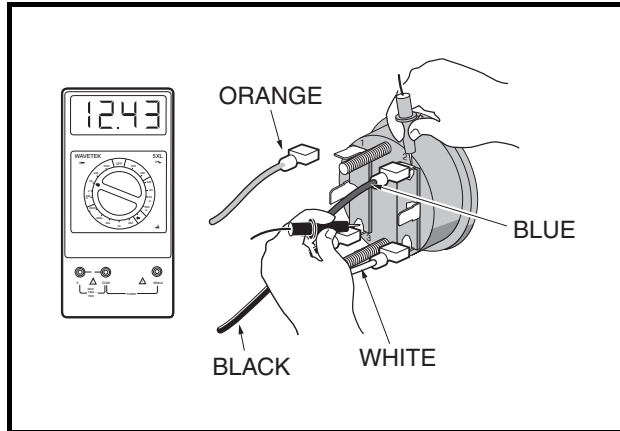

Figure 11-39 Test Fuel Gauge Continuity
6. Set a multimeter to 20 volts DC and place the red (+) probe of the multimeter on the (2) terminal of the fuel gauge/hour meter with the blue wire. Place the black (–) probe on the (3) terminal of the fuel gauge/hour meter with the black wire (**Figure 11-39, Page 11-36**).
8. Turn the key switch ON. The voltage reading should be the same as the battery voltage reading recorded earlier. If not, check the continuity of the blue and black wires (**Figure 11-39, Page 11-36**).